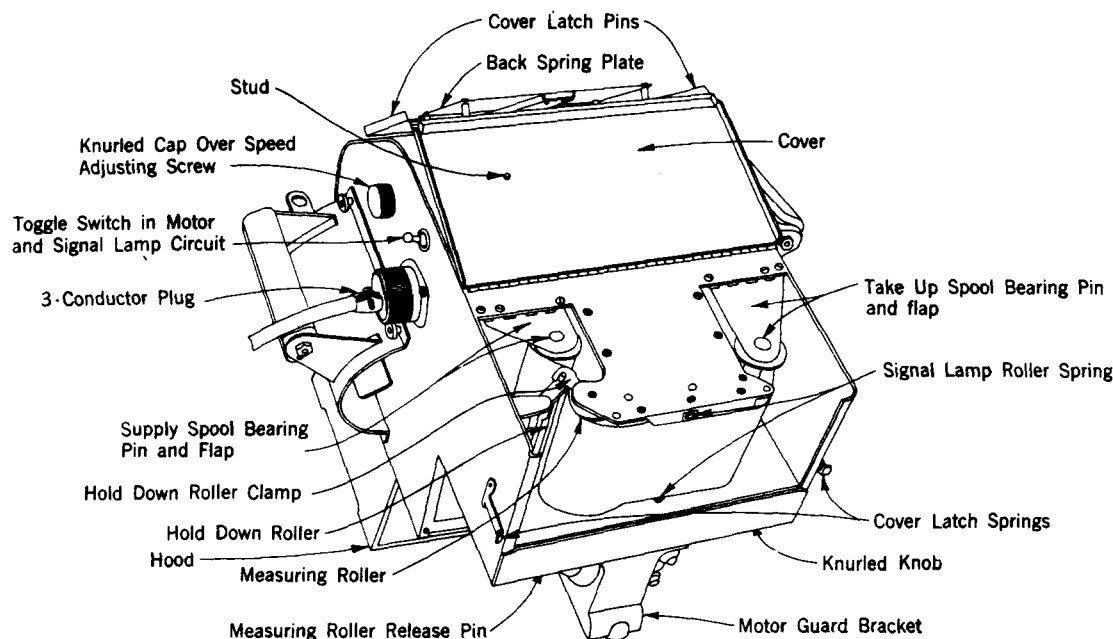

Fig. 1 – Rear View of Message Register Camera With Cover Open
3.08 Release the latches at the bottom of the camera and fold the back cover all the way up until it rests on top of the camera. Move the hold down roller clamp to the right and swing the hold down roller fully to the left. (See Fig. 1.) Lift the spool bearing flap to an upright position and remove the empty spool, if present, from the film chamber on the supply side, i.e., on the left.